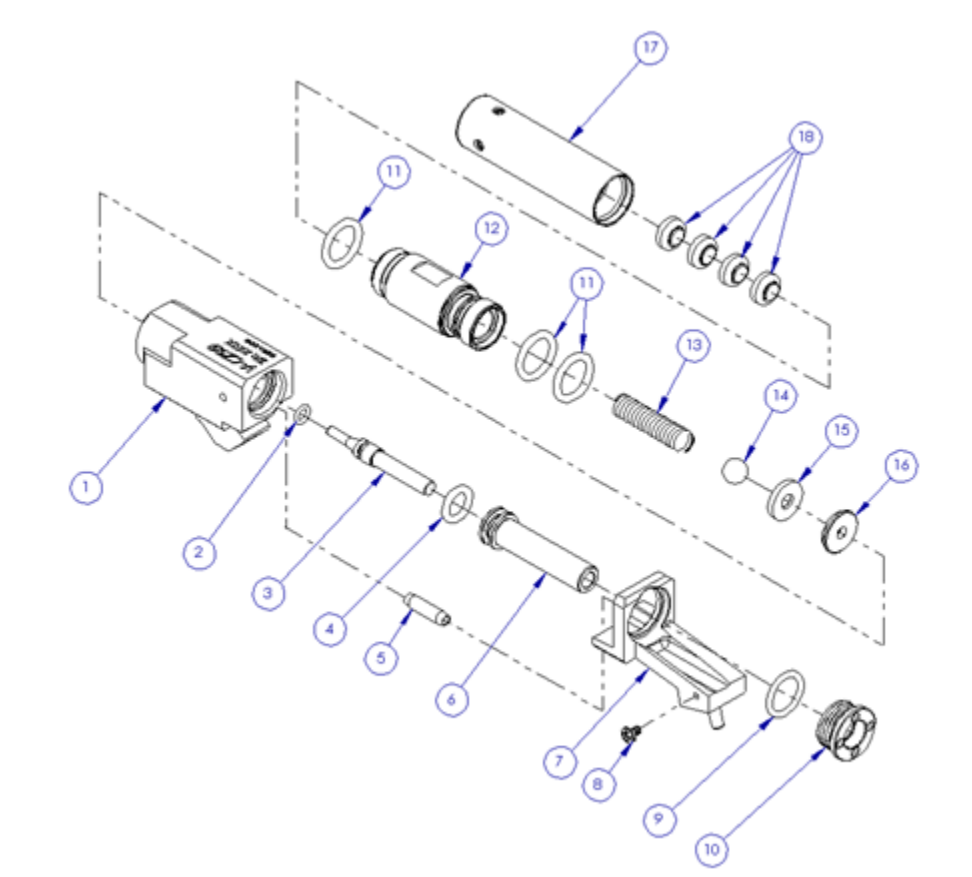

Figure 1: Barrel Assembly
- Do not use any of the approved lubricants on the internal components of the recoil kit. Internal components such as the piston striker (Figure 1, #3) and O-rings (Figure 1, #4) should be lubricated with Slip 2000 or Lucas Oil.
- Once weekly, remove the Tailpiece Fastener and inspect the Tailpiece Fastener Seal (Figure 1, #15). Replace if damaged.
Inspection of the striker and piston O-rings (Figure 1, #2, #4) should be done once weekly. These O-rings are essential to ensure consistent and high-quality recoil and should be cared for accordingly.
- Remove both the piston and striker (Figure 1, #2, #3) and wipe down with a rag or paper towel.
- Inspect both the piston and striker O-rings (Figure 1, #2, #4) and replace if any damage/wear is present.
Inspect the air tube (Figure 1, #5) once monthly. If any excessive wear or damage is noticed, it should be replaced. Refer to the picture below of a worn air transfer tube (Figure 8).
- Unscrew the charge chamber (Figure 1, #12) from the barrel block (Figure 1, #1) using a ½ inch wrench on the charge chamber and an adjustable wrench on the barrel block.
- Remove the brass washer (Figure 1, #16), charge chamber flat seal (Figure 1, #15), ball bearing (Figure 1, #14), and charge chamber spring (Figure 1, #13).
- Inspect the charge chamber flat seal and charge chamber O-rings (Figure 1, #11). Replace the seals if any damage/wear is present.
Use a ½ inch wrench to hold the charge chamber (Figure 1, #12) and use your hand to unscrew the Laser Housing (Figure 1, #17). Replace the batteries (Figure 1, #18) and reassemble.